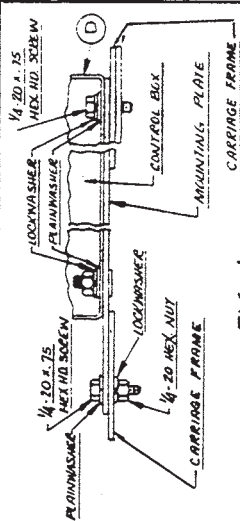

FIG. 4
- D. Install the control box (D) to the upper right front corner of the carriage using the hardware supplied. For LAF-3, -4 & -5, install control box per Fig. 5. The LAF control box must be electrically isolated from the carriage frame. For NA-3 & NA-4, install control box mounting plate to the bottom of the control box and then mount the assembly to the carriage per Fig. 4.